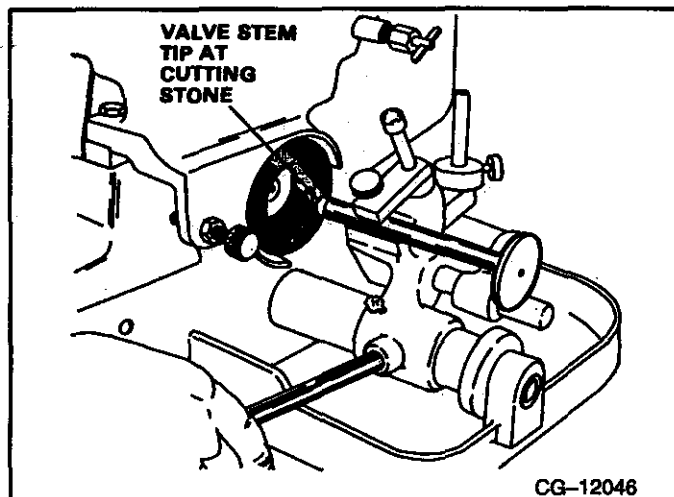

FIGURE 7-38
- b. Install the valve in the grinder as shown in **FIGURE 7-38**.